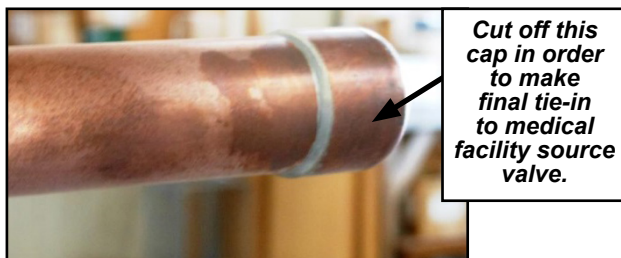
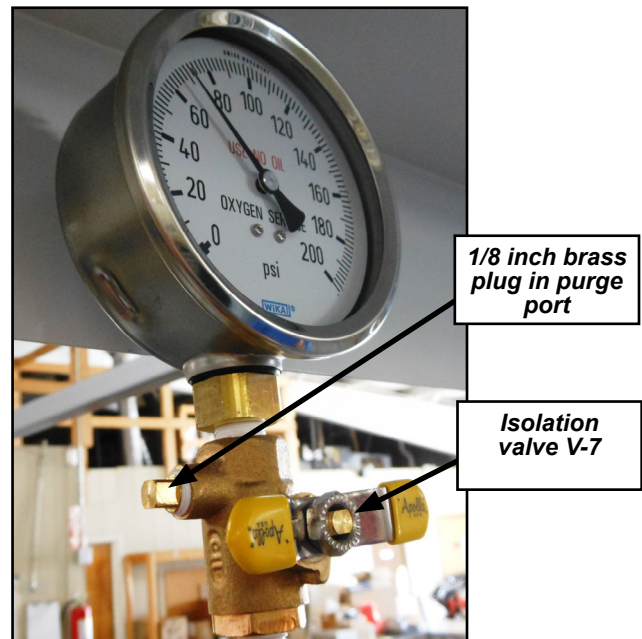
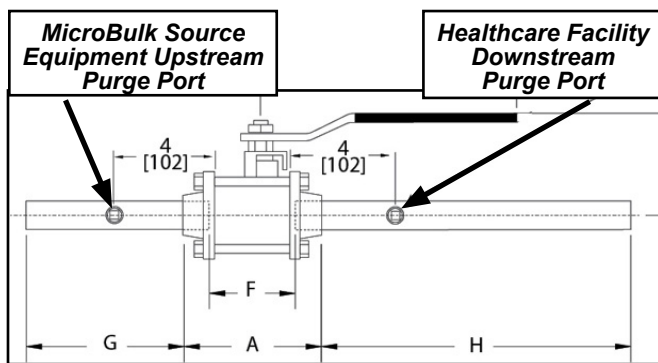

Figure 10 - "Remove 1" source line cap
Figure 11 - Location of purge port and valve (V-7)
Figure 12 - Purge Ports on Source Valve
- The line on the skid that will be tied into the facility source valve is capped (see Figure 10). Before attempting to remove the cap, blow down any pressure that might be on the line. To do this, close the pressure gauge isolation valve (V-7) on (PI-3) (see Figure 11). Remove the 1/8 inch brass plug (see Figure 11) and open valve (V-7) to relieve all the pressure on the line as verified on (PI-3). Leave the brass plug out for use as purge port if requirement is to silver solder the final tie in piping in place.
- Cut the cap off of the 1" copper pipe using a tubing cutter (see Figure 10). Do not ream; deburr using a clean, sharp deburring tool.
- Brazing must be completed under an NF nitrogen purge by personnel qualified in accordance with ASME Section IX certifications, until the joint is cool to the touch. Use 1/8 inch port above valve (V-7) (see Figure 11) for purging and/or the purge port on the upstream side of the source valve if so equipped (see Figure 12).
- Pressure up main gas supply line through the upstream purge port of the facility source valve if so equipped (see Figure 12). Pressurize system to a minimum of 1.5 times the normal working pressure (see Appendix 2, table 1, Primary Reg-R2) and hold pressure for 10 minutes while leak checking each joint with an approved leak detection method.